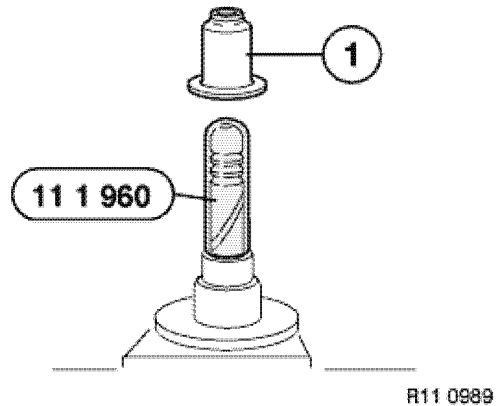

Figure 5-30
5. Coat new valve stem seal (1, Figure 5-30) with oil and install over tool. Remove special tool OEM No. 11 1 960.